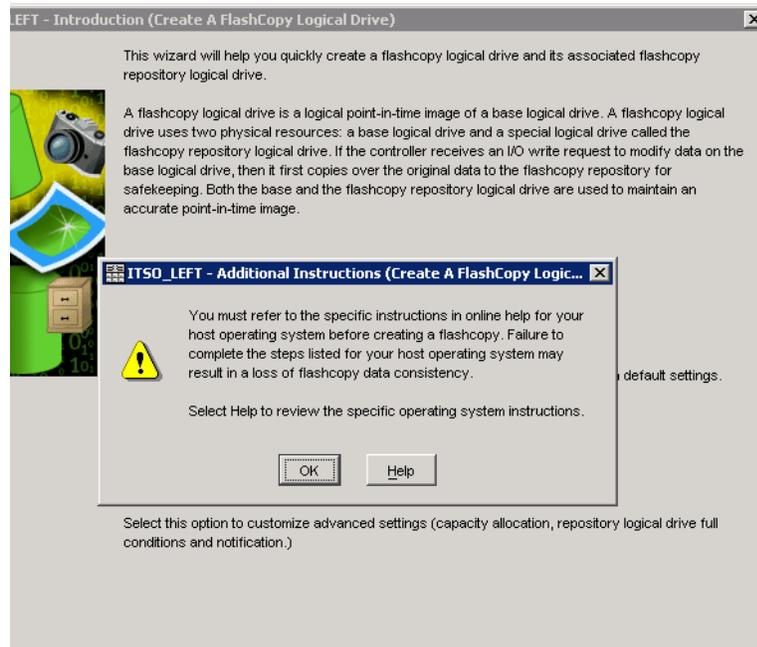

Figure 7-5 Create FlashCopy Logical Drive Wizard startup
3. The Create FlashCopy Logical Drive wizard begins, as shown in Figure 7-5 on page 409.
1. Review the information about the initial window, as shown in Figure 7-5. Click **OK** to proceed to the wizard introduction window.